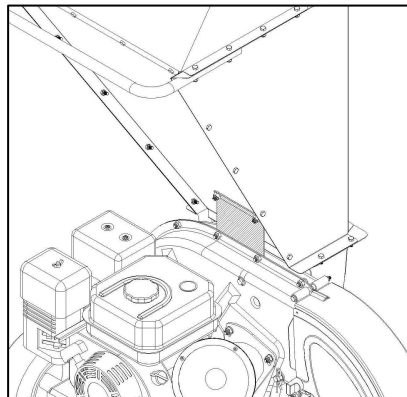

Figure 1-3
- a. Remove six flange nuts which secure hopper inlet guide to impeller housing. See Figure 1-3.
- b. Remove the two internal hex screws, hex lock nuts, and lock washers which secure the shredder blade to the impeller. See Figure 1-3.